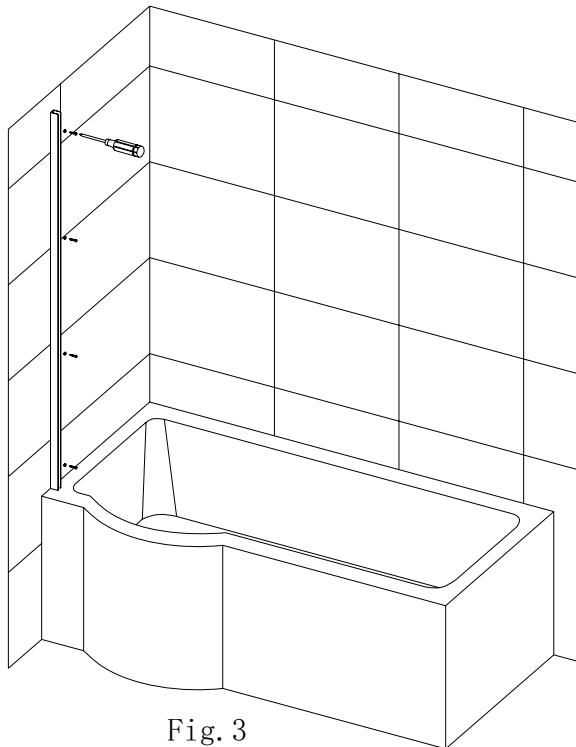

Fig. 3
3) Use screws M4x30 to fix the wall profile 1 (on the wall .As Fig.3